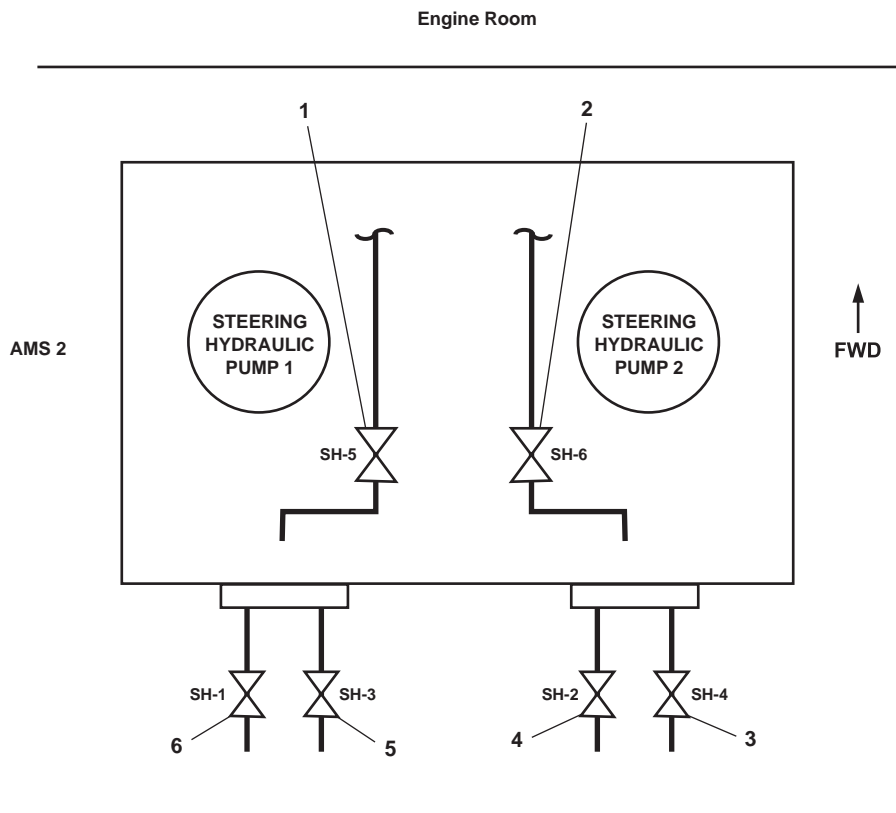

Figure 3. Steering Hydraulic Pump Station
- a. SH-5, RUD. MOT NO. 1 SUMP (figure 3, item 1)
- b. SH-6, RUD. MOT No. 1 SUMP (figure 3, item 2)
- c. SH-4, C.O.V. -RUD. MOT. No.2 PRESS / RTN (figure 3, item 3)
- d. SH-2, C.O.V.-RUD MOT. No.2 PRESS / RTN (figure 3, item 4)
- e. SH-3, C.O.V. -RUD. MOT. No. 1 PRESS / RTN (figure 3, item 5)
- f. SH-1, C.O.V. -RUD. MOT. No. 1 PRESS / RTN (figure 3, item 6)